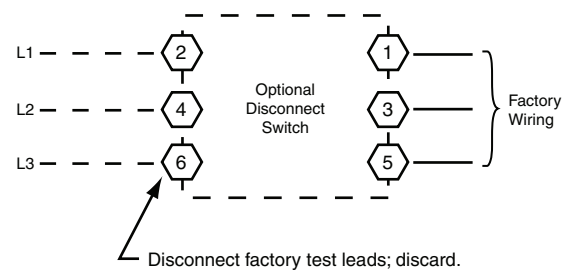

Fig. 17 — Power Wiring Connections
Refer to Fig. 17 for power transformer connections and the discussion on connecting the convenience outlet on page 14.
The factory-installed option non-fused disconnect (NFD) switch is located in a weatherproof enclosure located under the main control box. The manual switch handle and shaft are shipped in the disconnect enclosure. Assemble the shaft and handle to the switch at this point. Discard the factory test leads (see Fig. 17).
All field wiring must comply with NEC and all local codes. Size wire based on MCA (Minimum Circuit Amps) on the unit informative plate. See Fig. 17 and the unit label diagram for power wiring connections to the unit power terminal blocks and equipment ground. Maximum wire size is No. 2 ga AWG per pole.
- 2. Install power lines to terminal connections as shown in Fig 17.